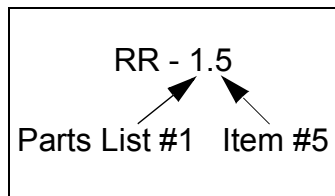

Figure 1-1. R&R Numbering
This chapter contains Removal & Replacement procedures that are indexed by number to the related Parts List in Chapter 3. For example, RR-1.5 is the Removal & Replacement procedure for Parts List PL-1, line item 5. (See Figure 1-1 below.)